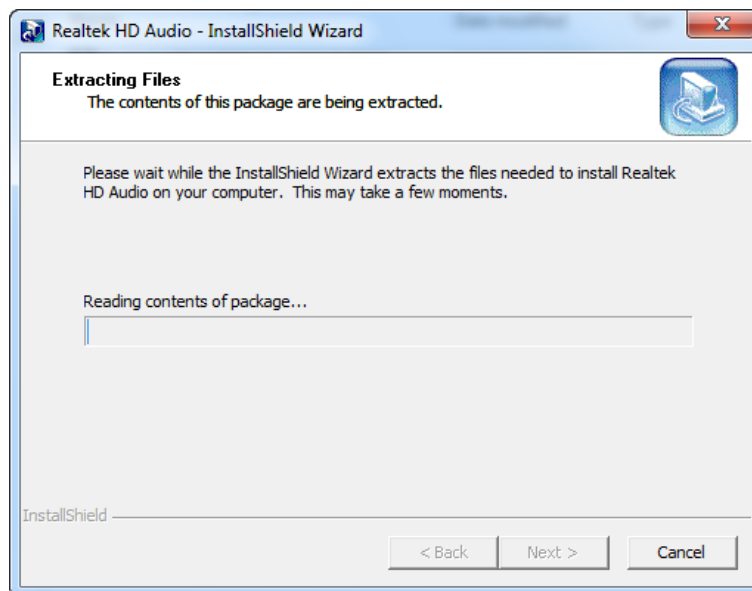

Figure 5-22: Audio Driver – Extracting Files
Step 4: The InstallShield Wizard starts to extracting files (**Figure 5-22**).